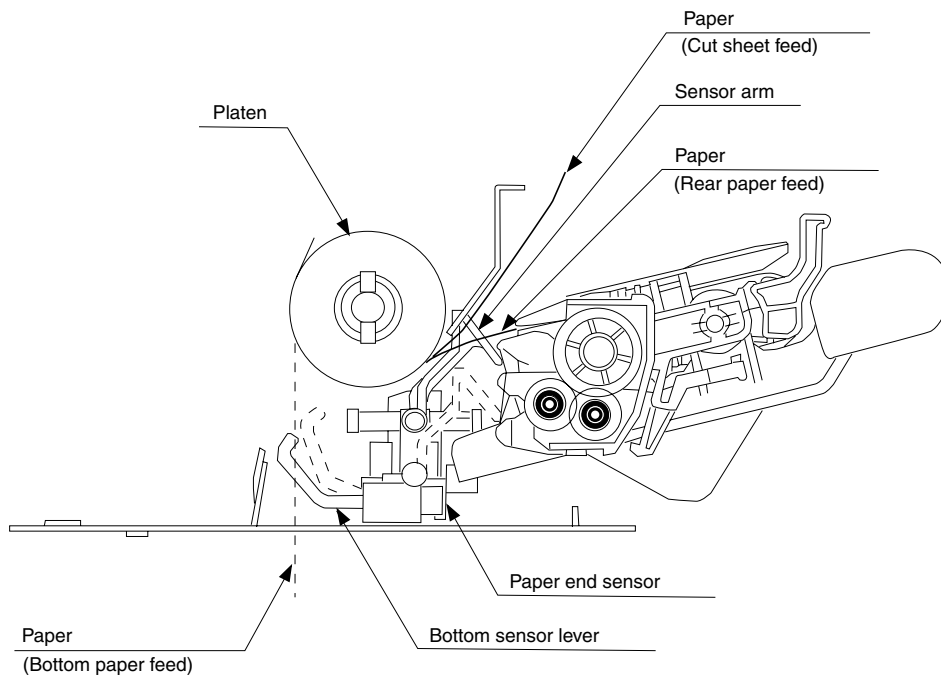

Figure 12
#### (2) Bottom feed detection(See Figure 12.)